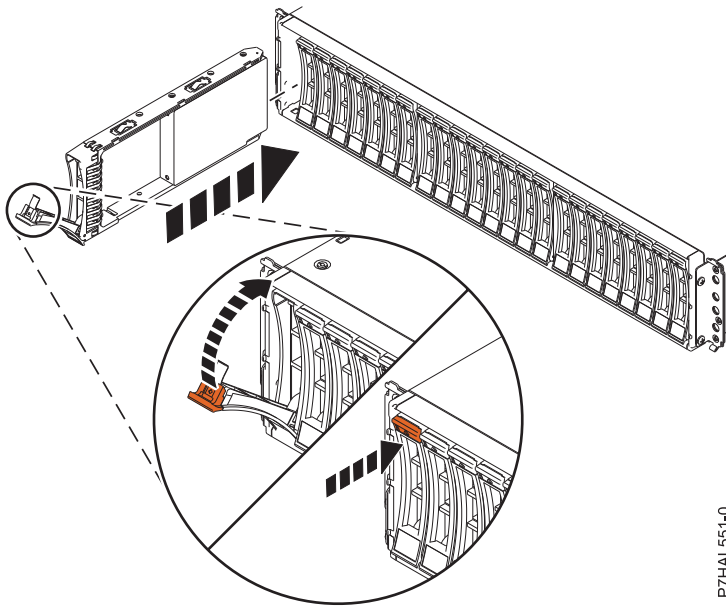

Figure 44. Replacing a disk drive in the disk drive enclosure
3. With the handle in the unlocked position, as shown in Figure 44 on page 44, support the bottom of the drive as you align it with the guide rails in the expansion unit.
8. Lock the drive by rotating the bay handle (A) in the direction that is shown in Figure 44 on page 44.